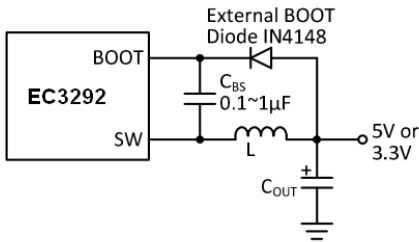

Figure 1: Add optional external bootstrap diode to enhance efficiency.
- In these cases, an external BOOT diode is recommended from the output of the voltage regulator to BOOT pin, as shown in Figure 1.